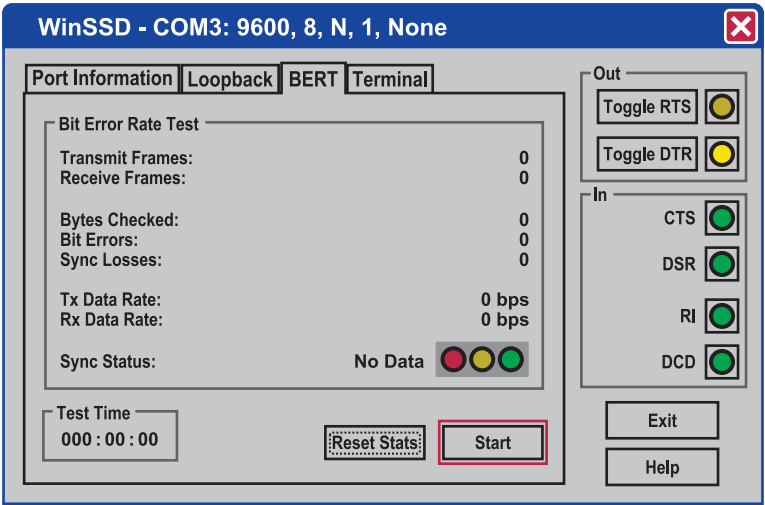

Figure A-3. Start button in WinSSD COM3 screen.
- Select the "BERT" tab and with the loopback connected to the port you want to test, click on the "Start" button. If testing RS-485, be sure that ECHO is enabled (see Figure A-3).